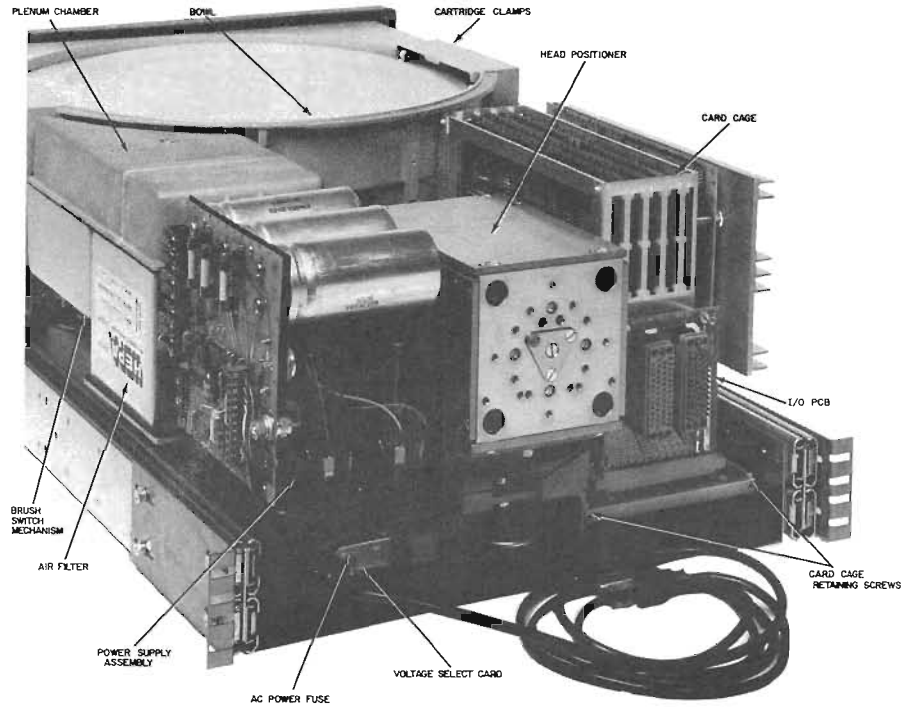
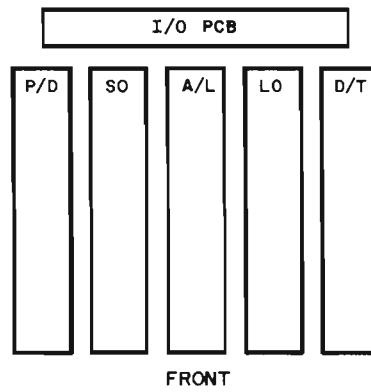

Figure 5-1. LOCATION OF ASSEMBLIES
Figure 5-2. CARD CAGE PCB LOCATIONS
Figure 5-1 shows some of the major assemblies of the Model 44B. The locations of the PCB's within the Card Cage are shown in Figure 5-2.
2. Remove the two card cage retaining screws shown in Figure 5-1.
To replace the air filter, first remove the plenum chamber (see Figure 5-1), which is held in place with two screws. Exercise caution so that the gasket around the sealing edges of the plenum chamber is not damaged. The air filter and pad can now be lifted straight up. Install a new air filter and pad, observing the air-flow direction printed on the filter label (arrow up), and replace the plenum chamber. Ensure that both gaskets are well-seated on their sealing edges.